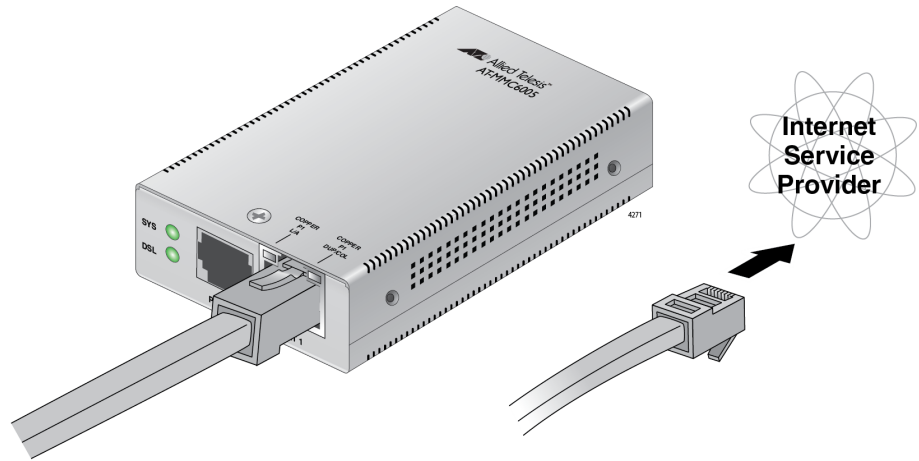

Figure 17. Provider Unit Ethernet Port to Internet Service Provider
1. Connect an Ethernet cable from the Provider Ethernet port to the Service Provider box in your wiring closet, as shown in Figure 17.